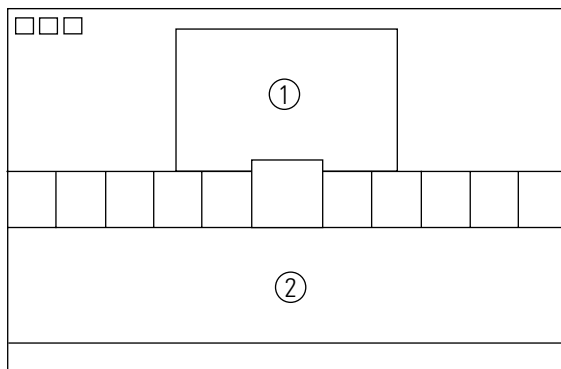

Fig. 4-4
1. Set SBT to 1.0 fL in the Factory Service Mode with using CA100. See Fig. 4-4.
1. Set SCT to 35 FL in the Factory Service Mode with using CA100. See Fig. 4-4 .